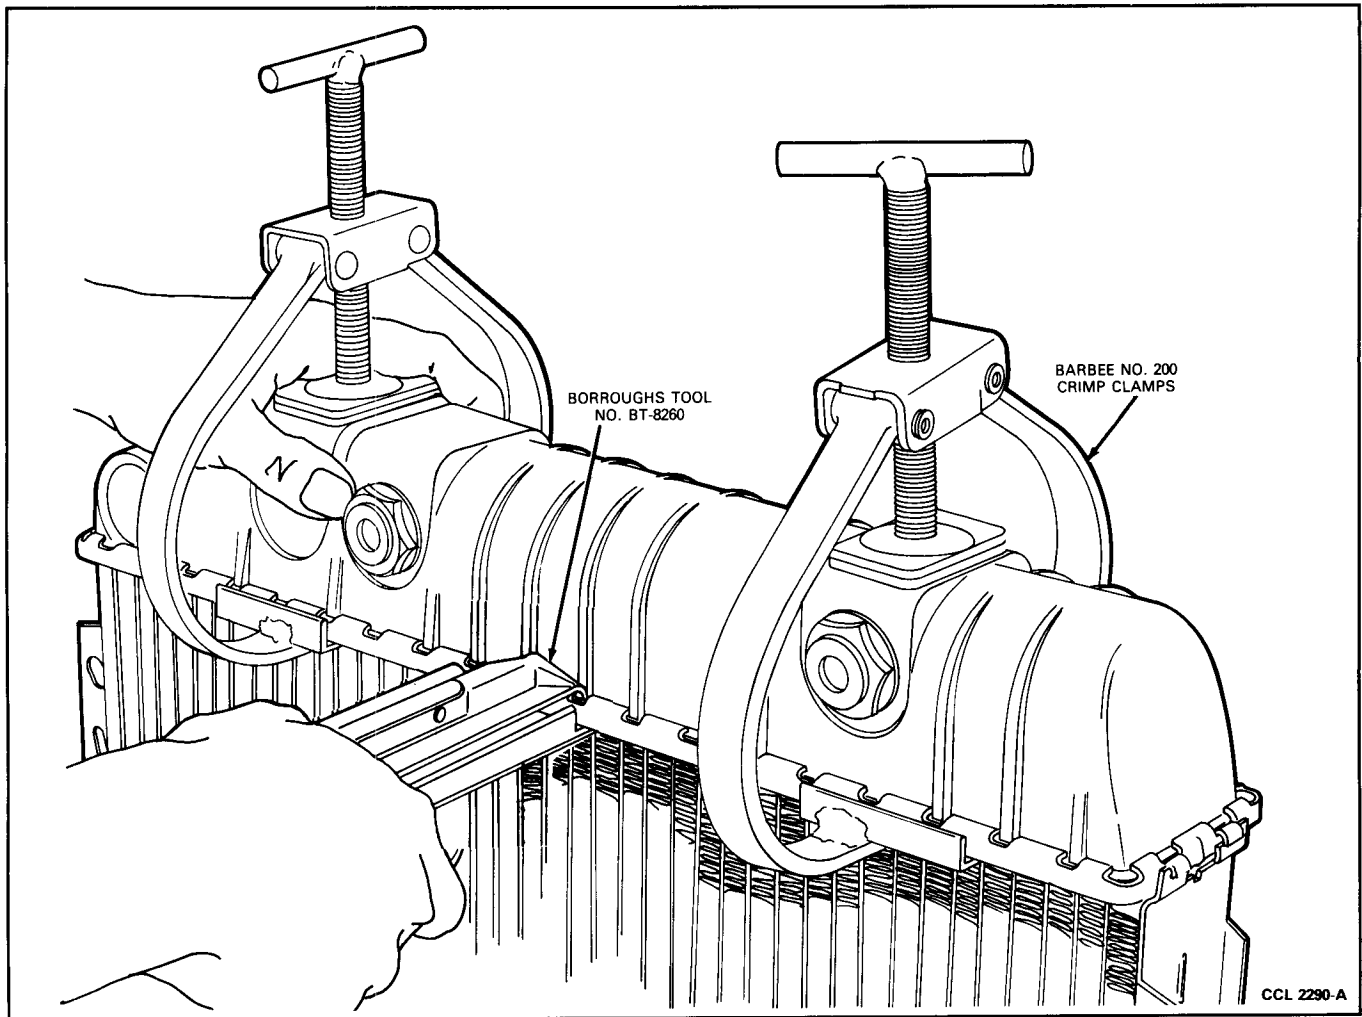
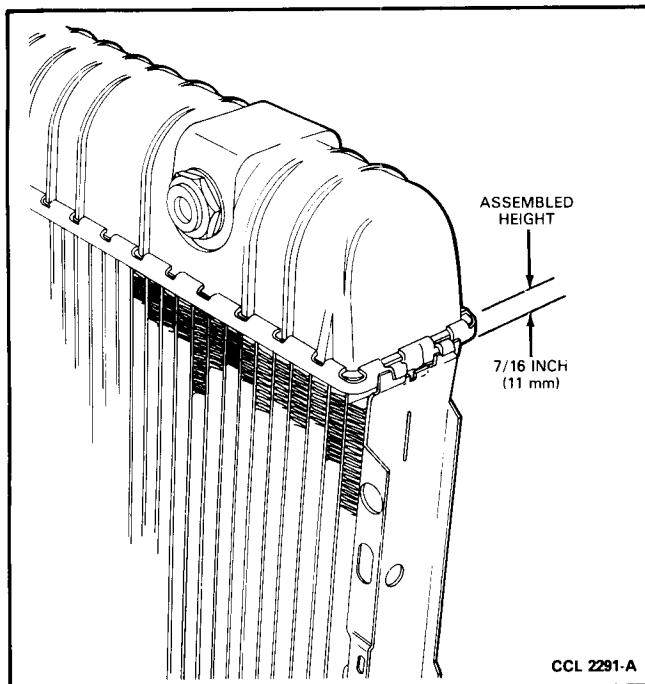

FIG. 15 Crimp Header Tabs with Burroughs Tool
FIG. 16 Crimp Assembled Height
10. If a special crimping tool is used such as the one shown in Fig. 15, follow the manufacturers instructions. It is however, important that the assembled height of the crimp be 13/32 inch when measured from the bottom of the header to the top of the tab (Fig. 16).